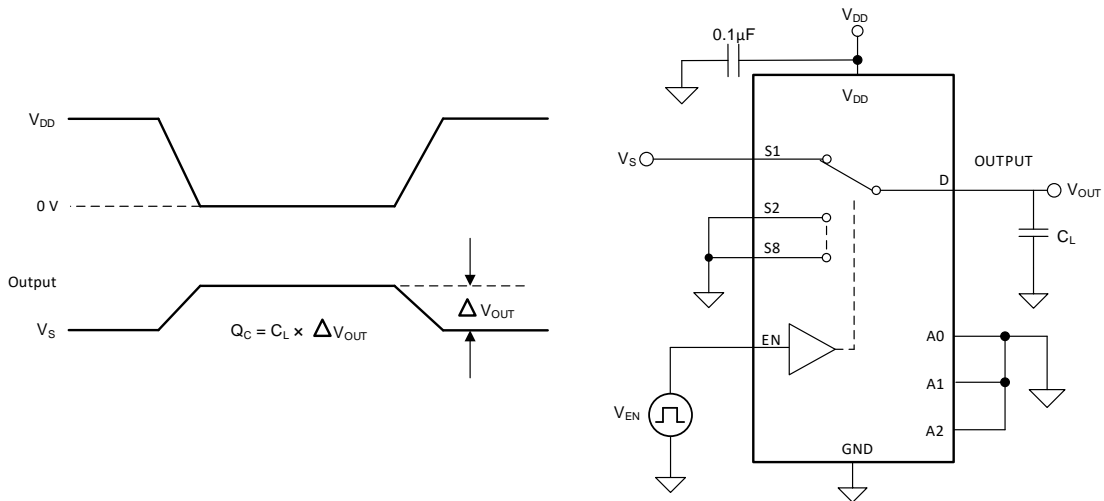

图 13. Charge-Injection Measurement Setup
The TMUX1208 and TMUX1209 have a transmission-gate topology. Any mismatch in capacitance between the NMOS and PMOS transistors results in a charge injected into the drain or source during the falling or rising edge of the gate signal. The amount of charge injected into the source or drain of the device is known as charge injection, and is denoted by the symbol  $Q_C$ . 图 13 shows the setup used to measure charge injection from source (Sx) to drain (D).